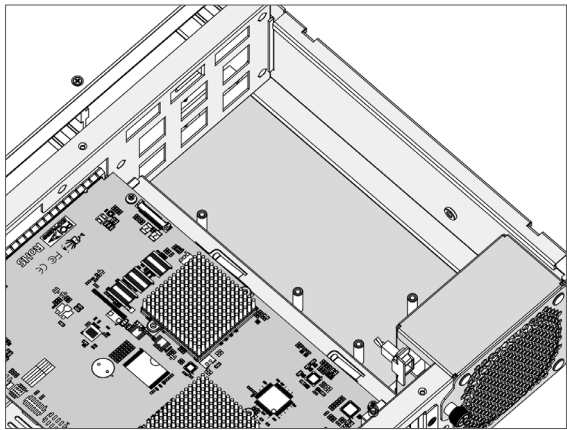

Figure C-2, Removing the Cover
1. Loosen the screws and remove the cover from the ARC-7308/ ARC-7312 enclosure, as shown in Figure C-2.